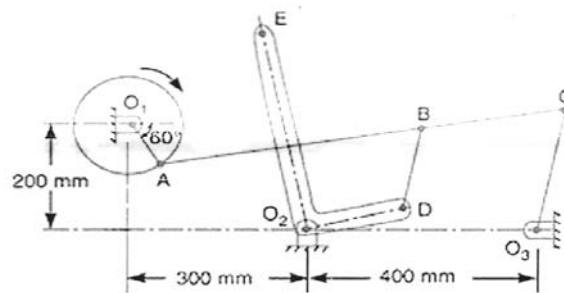

Fig.2
- Q2) a)** The mechanism of a wrapping machine, as shown in Fig.2, has the following dimensions: $O_1A = 100\text{mm}$; $AC = 700\text{mm}$; $BC = 200\text{mm}$; $O_3C = 200\text{mm}$; $O_2E = 400\text{mm}$; $O_2D = 200\text{mm}$ and $BD = 150\text{mm}$. The crank O_1A rotates at a uniform speed of 100 rad/s . Find **[10]**